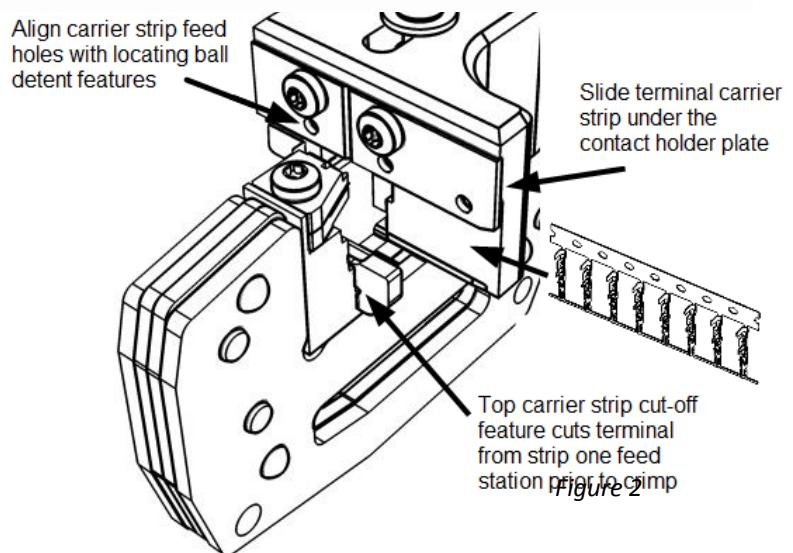

Figure 2
3. Slide the terminal carrier strip under the contact holder plate and align the carrier strip feed holes with the locating ball detent features. This tool is designed for a double carrier strip terminal. The top carrier strip cut-off tool separates the terminal from the strip one strip-feed distance prior to the crimp station (Figure 2).
4. Cycle the handle one or two times to ensure the top carrier strip is separated from the terminal. The terminal should now be properly positioned and ready to crimp (Figure 2).